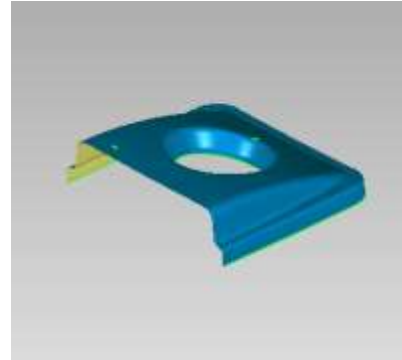

Figure 16 – Clipped View
- Select the **Isometric View** icon in the **Right-Side Toolbar**, see **Figure 16**.